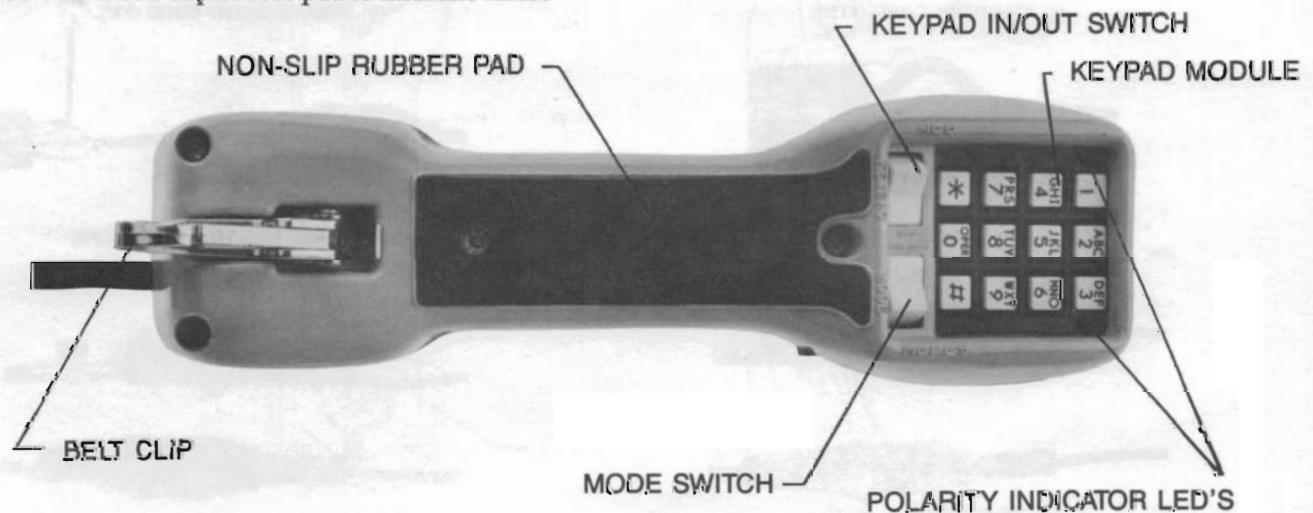

Fig. 3 - TS21 Handset Assembly—Dial Side
3.09 Mode Switch: The **MODE** switch is a white rocker switch located on the bottom right of the keypad (Figure 3). This switch selects either tone or pulse dialing. In the **TONE** position, the switch selects the DTMF output. In the **PULSE** position, it selects the rotary-dial output.
3.10 Keypad Switch: This is a white rocker switch located in the bottom left corner of the keypad (Figure 3). When the switch is set to the **IN** position, the test set operates as a modern electronic telephone instrument. The **IN** position is used for all normal communications functions. Set to the **OUT** position, the switch bypasses the electronics including the keypad. In this mode, dialing is not possible and the test set operates at much lower voltages. The **OUT** position is recommended when testing at or near the loop limit or testing on dry circuits. The **OUT** position is also useful when the test set is used for local communications with another craftsman when talk battery is supplied by a local battery source such as that provided by "TONES" or other types of installer test equipment.
3.11 Keypad Module: The keys on the keypad module are used for dialing. There are twelve keys which are recessed into the receiver end of the case to provide both physical protection to the keypad and to prevent accidental key operation (Figure 3). The actual mode of dialing, either tone or pulse, is determined by the setting of the **MODE** switch described in paragraph 3.09.